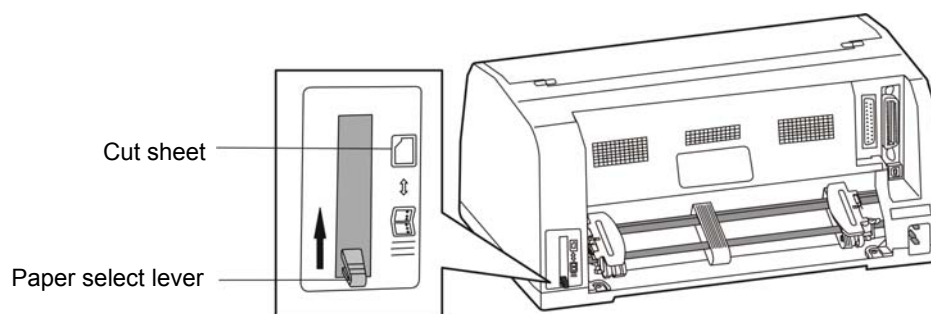

Figure 3-2 Setting the paper select lever (cut sheet)
- Set paper select lever at the position of cut sheet printing mode as shown in Figure 3-2.